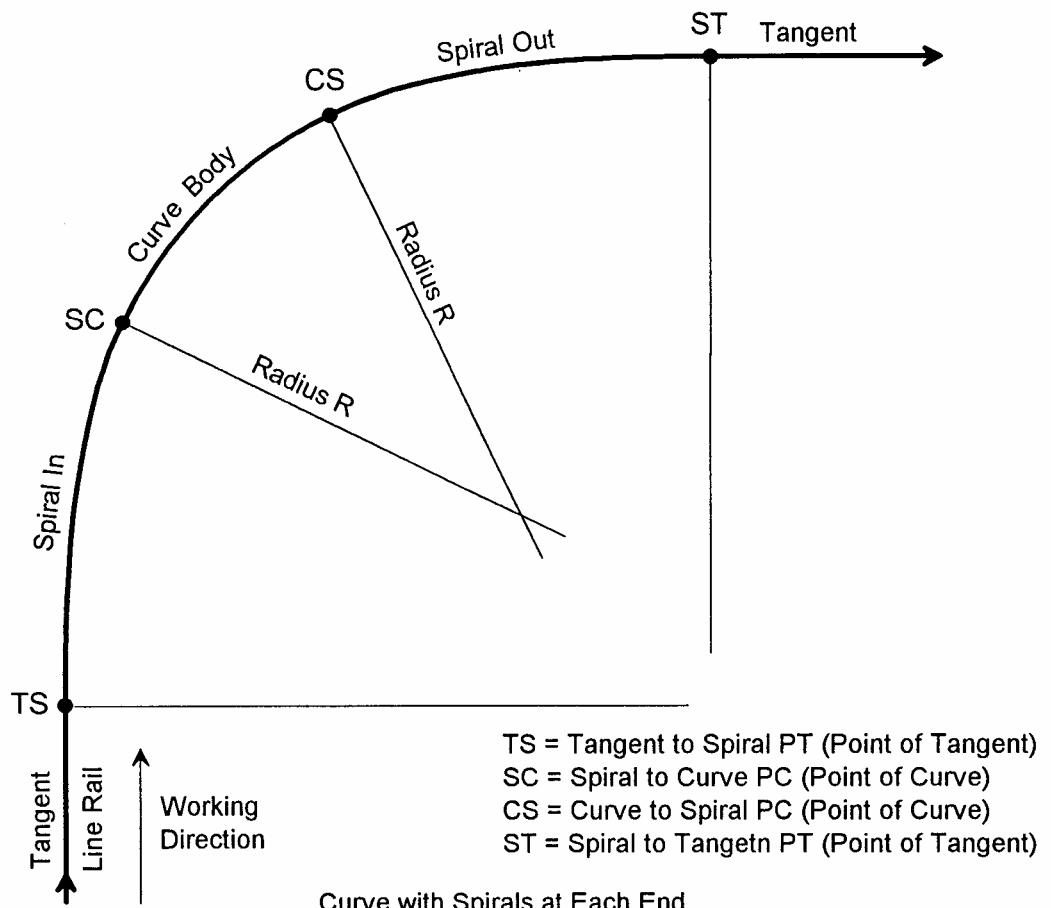
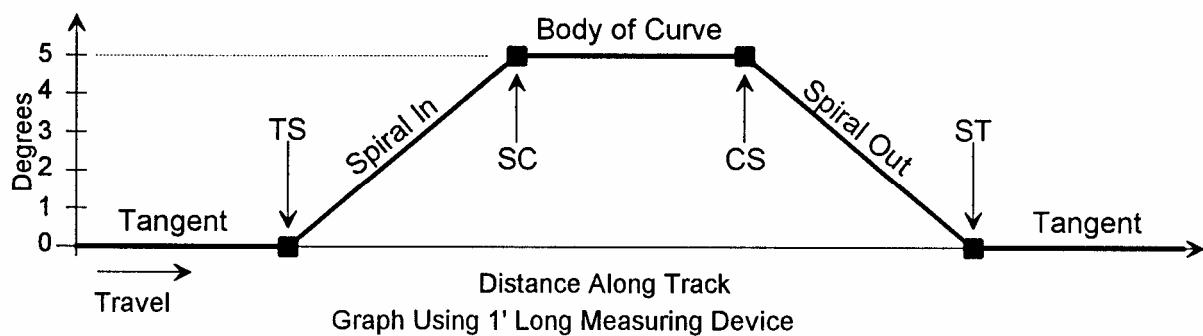

Figure A-8 Curve with Spirals at Each End
Figure A-9 Graph Using 1' (.305 m) Long Measuring Device
Figure A-8 shows a standard railroad curve with spirals. It consists of a length of tangent track, followed by a spiral, then the curve body, another spiral out of the curve, and finally the tangent track beyond. This is the most common curve occurring in railroad track. To understand how the spirals look to a measuring system, we can make a graph simulating what this entire curve would look like. First, we will graph what it would look like to our one foot long measuring device. This allows us to look at the shape of the curve, while ignoring machine effects.
Figure A-9 shows the graph of the curve in Figure A-8 as measured by our very short measuring device. By using this very short device, the "rounding" effect that longer measuring systems have is eliminated. As the figure shows, the Offset is zero (0) at each tangent and